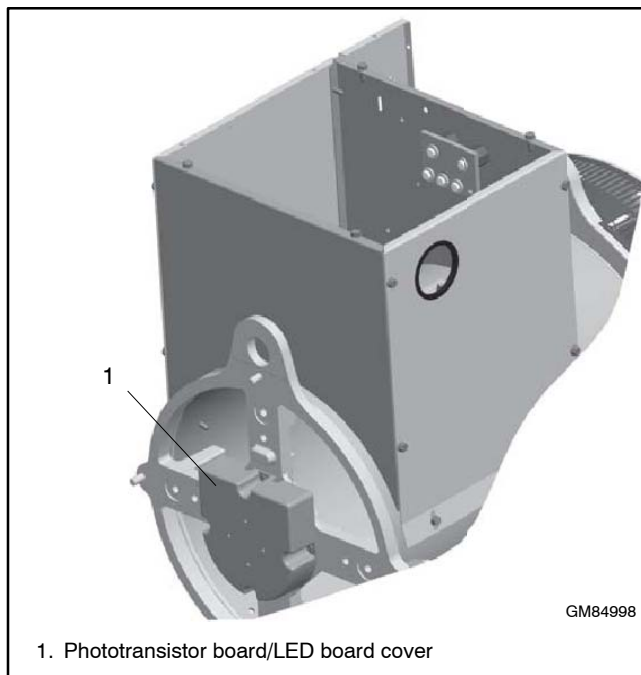
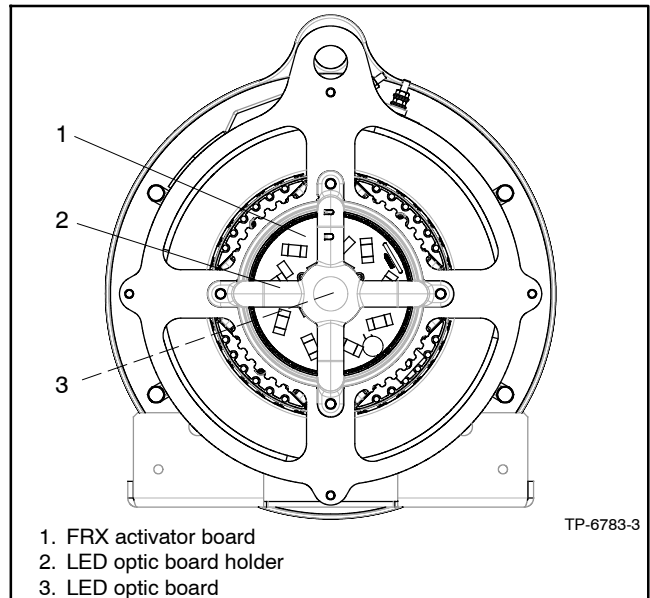

Figure 6-3 Phototransistor Board Cover (38RCL)
Figure 6-4 FRX Activator Board with LED Optic Board Installed (48RCL, 48RCLA, and 60RCL)
1. Remove the junction box panels from the generator end of unit and remove the phototransistor board cover (38RCL) or the LED optic board and holder (48RCL, 48RCLA, and 60RCL). See Figure 6-3 or Figure 6-4.